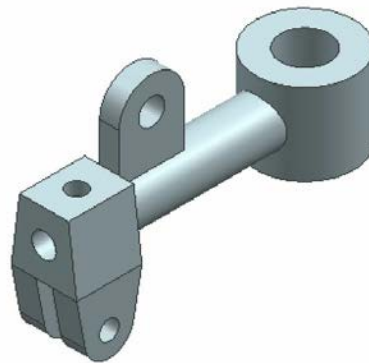

Figure 13-121 Resultant model
4. Select the **YC-axis** option from the **Infer Vector** drop-down list in the **Specify Vector** area of the **Transform** rollout. Next, enter **30** in the **Distance** edit box of the **Transform** rollout and choose the **OK** button from the dialog box. The resultant model is shown in Figure 13-121.